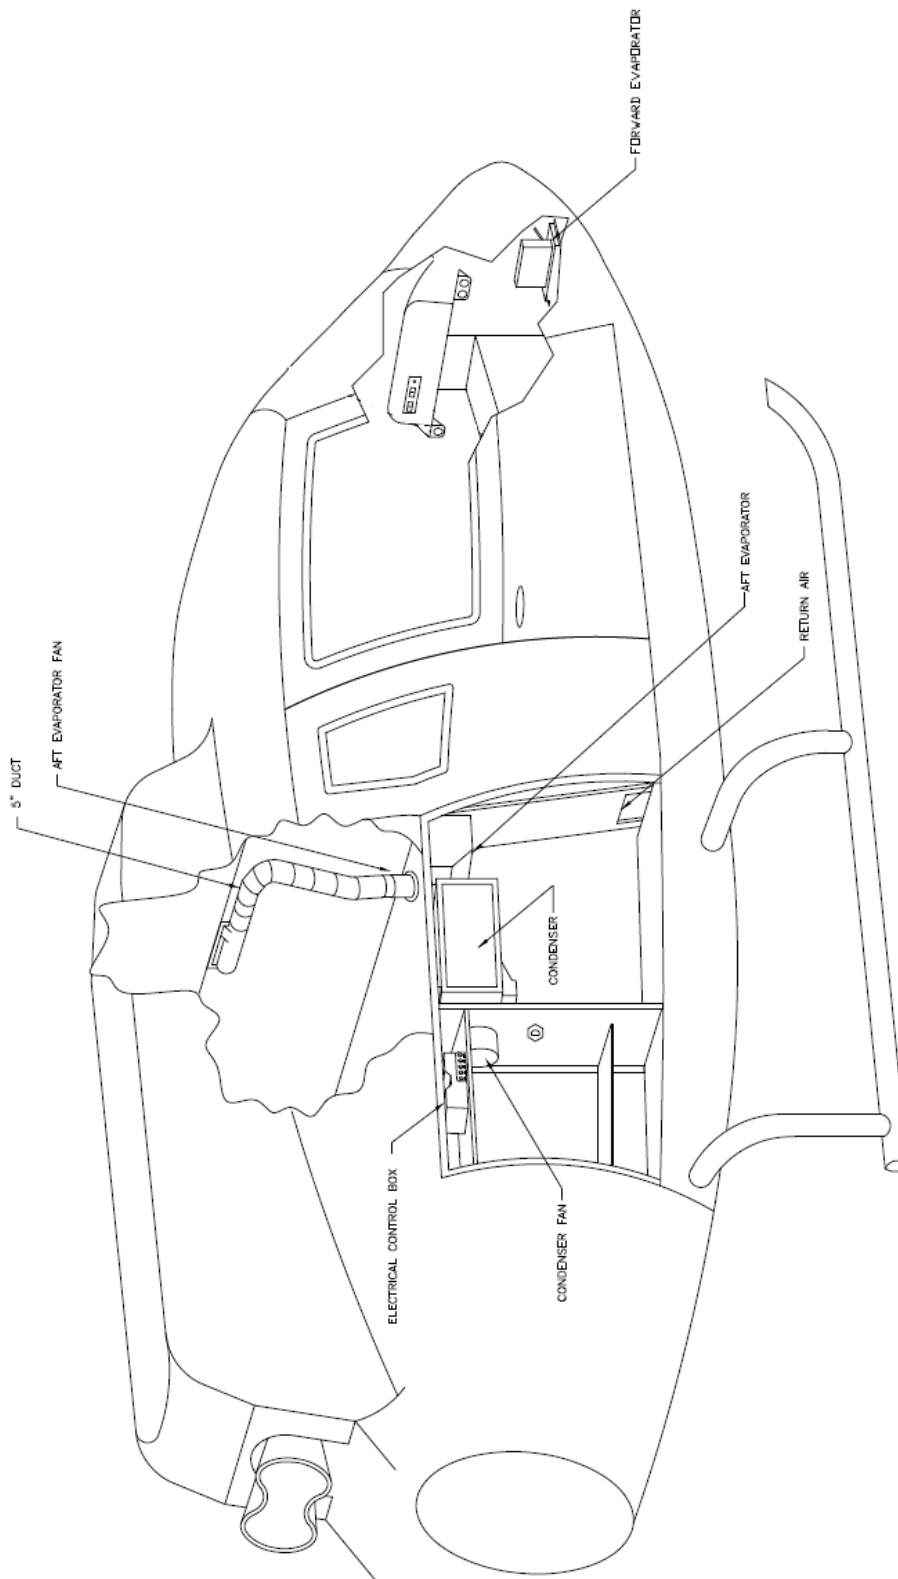

Figure 21-01: Equipment Locations for Air Conditioning System
- **Condenser-** The condenser is located in one of two positions depending on kit part number (Ref. table 21.1). The aft mounted condenser (Ref. figure 21-01) is mounted in the tail boom mounted 5 in. above the baggage floor. The side mounted condenser is located in the right baggage compartment (Ref. figure 21-02). The EC-130 condenser is only located in the aft mounted configuration. The aft mounted condenser assembly has two blower motors, whereas the side mounted condenser assembly only has one blower motor.
350-00-011-HP	AEC Basic Configuration Side Mounted Condenser (Ref Figure 21-01)